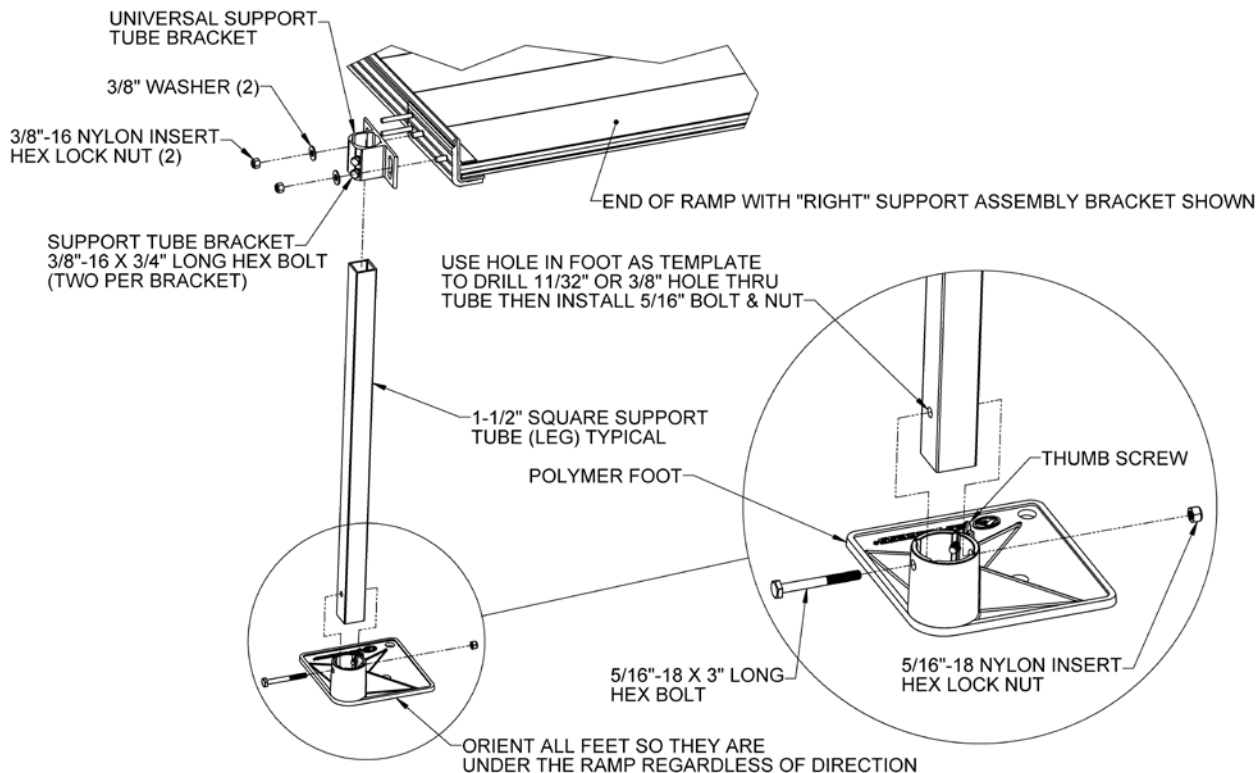

FIG. 20
- 4.1 Install universal support tube brackets to the support assembly brackets with the 3/8" studs extending through the curved slots in the support tube brackets. Use two 3/8"-16 nylon insert locknuts and 3/8" washers at each location but do not tighten fully (FIG. 20).